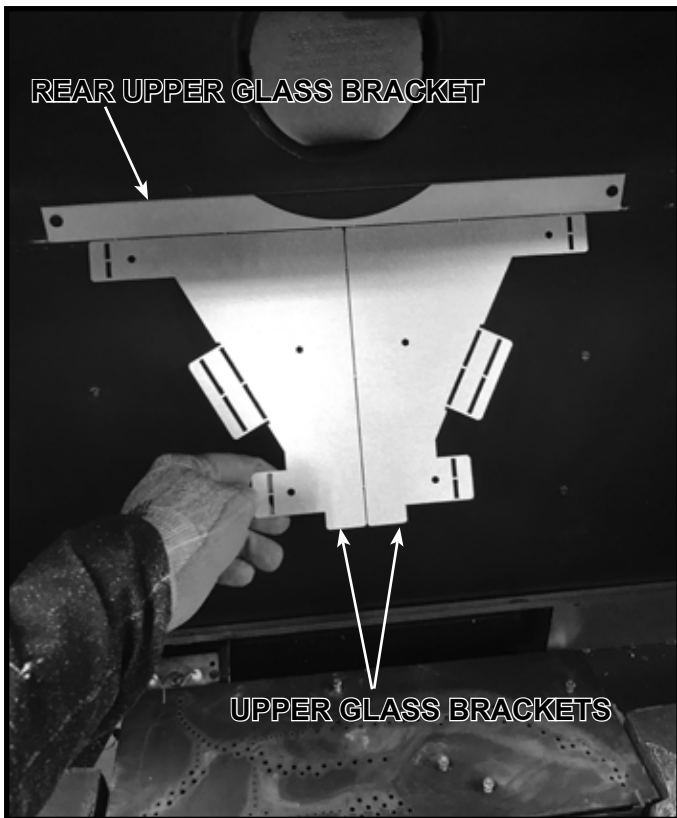
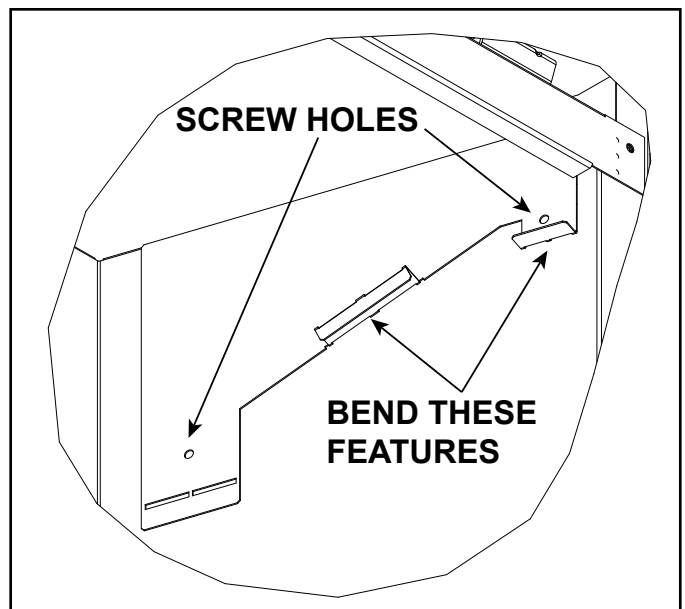
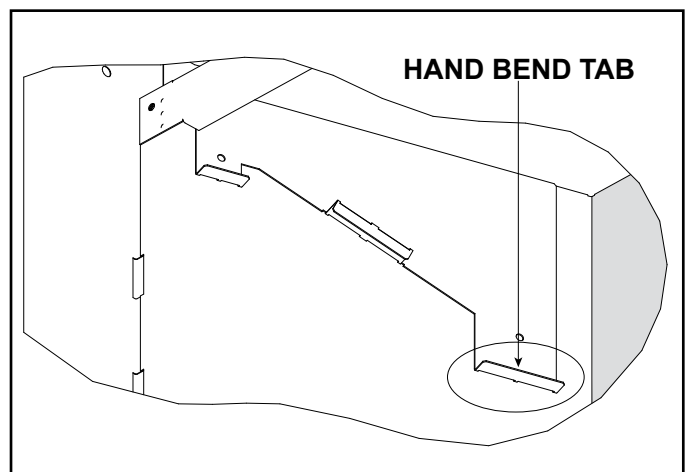

Figure 11.11 Remove Upper Glass Brackets
Figure 11.13 Bend Upper Glass Brackets (Upper Right Bracket Shown)
Figure 11.14 Upper Glass Brackets Installed (Left Upper Bracket Shown)
3. Remove the upper glass brackets from the back of the firebox by pulling forward on the bottom edge to break them free. Then separate them by breaking them apart. See Figure 11.11 and 11.12. Bend the "Right" bracket as shown in Figure 11.13. Bend the "Left" bracket shown in Figure 11.14.
4. Install right upper glass bracket by pushing the bracket "up" to the firebox top and "out" to the front face of the firebox. The front edge of the bracket should be tight to the firebox face and the top edge of the bracket should be tight to the firebox top. Install the bracket by inserting the two self-tapping screws through the bracket into the firebox. See Figure 11.13. Repeat this step for left upper glass bracket installation.
6. With one hand on the rear glass panel, bend "up" one hand bend tab on the upper glass bracket to approximately 90 degrees. See Figure 11.14. Bend "up" the hand bend tab on the opposing bracket. The rear glass panel is now installed. This panel will be held in place by the side panels once they are installed.